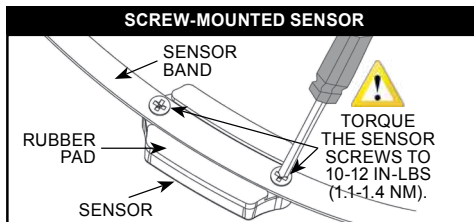

Figure 1: Screw-mounted internal sensor
3. If the sensor is not already attached to the band, attach the sensor to the sensor band with the two screws. Torque the screws to 10-12 in-lbs (1.1-1.4Nm). See Figure 1.